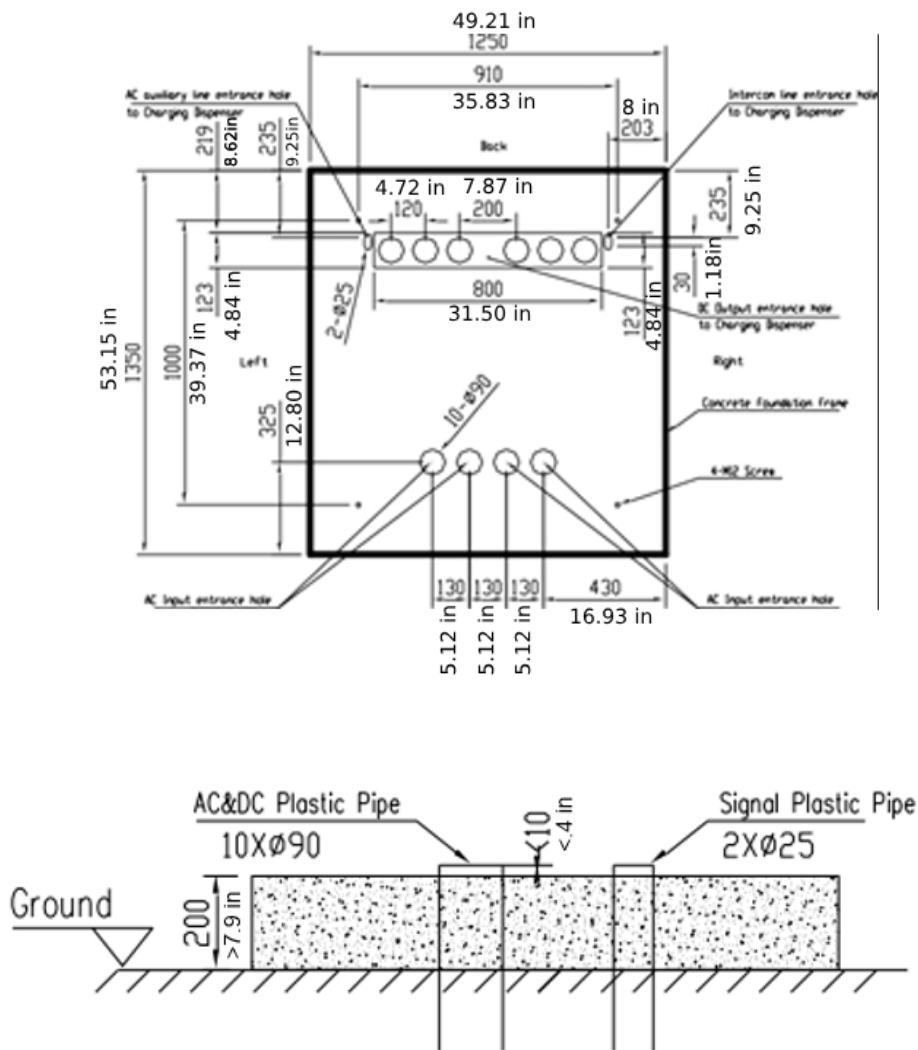

Figure 5.2 Power Cabinet Concrete Foundation View
- As shown in Figures 5.2 and 5.3, the concrete foundation should be made, and the height of the base should not be less than 7.9 in (200 mm).
- As shown in Figure 5.2, mark the installation holes of four M12 expansion bolts on the concrete foundation.